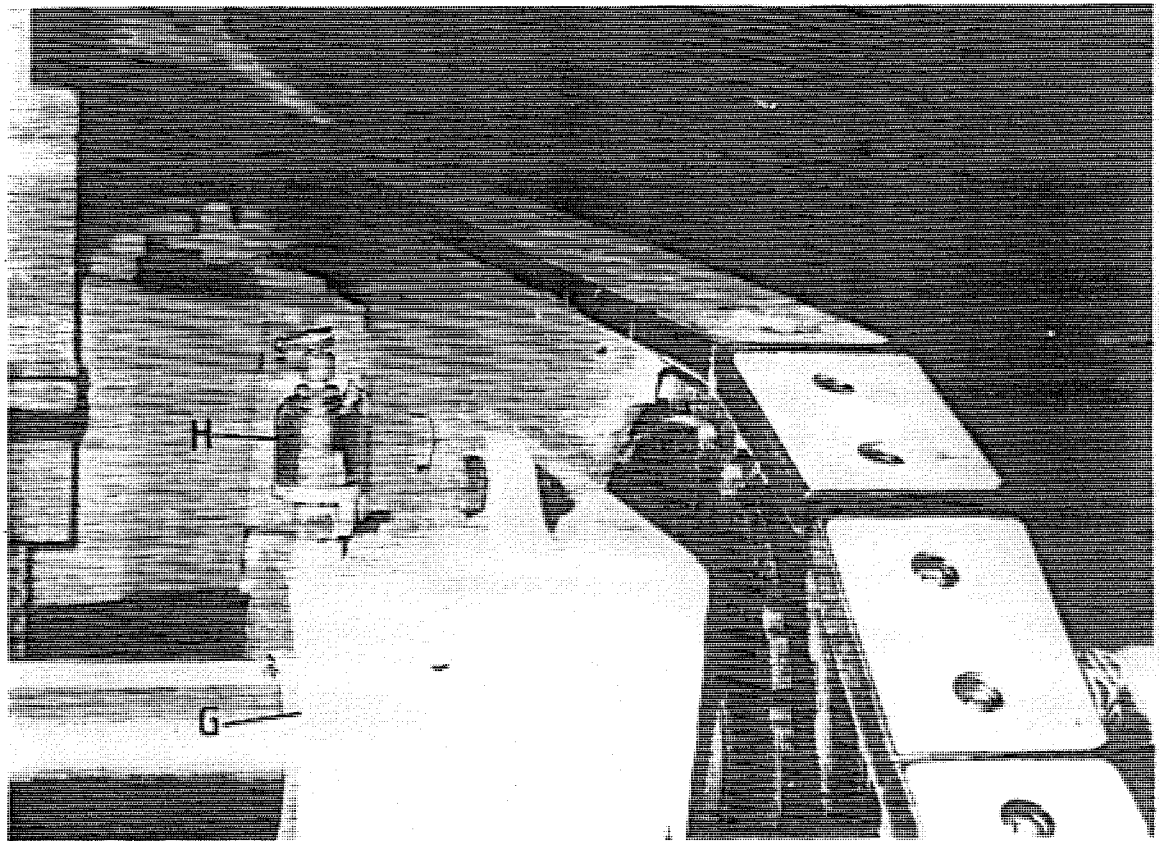

FIG. 17
- 2 Lubrication of backshaft is through the bracket for main drive shaft "G" FIG.17, on adjustable chain beam by means of a drip rated lubricator bottle "H". Full bottle and set drip rate until a thin film of oil is seen on backshaft.